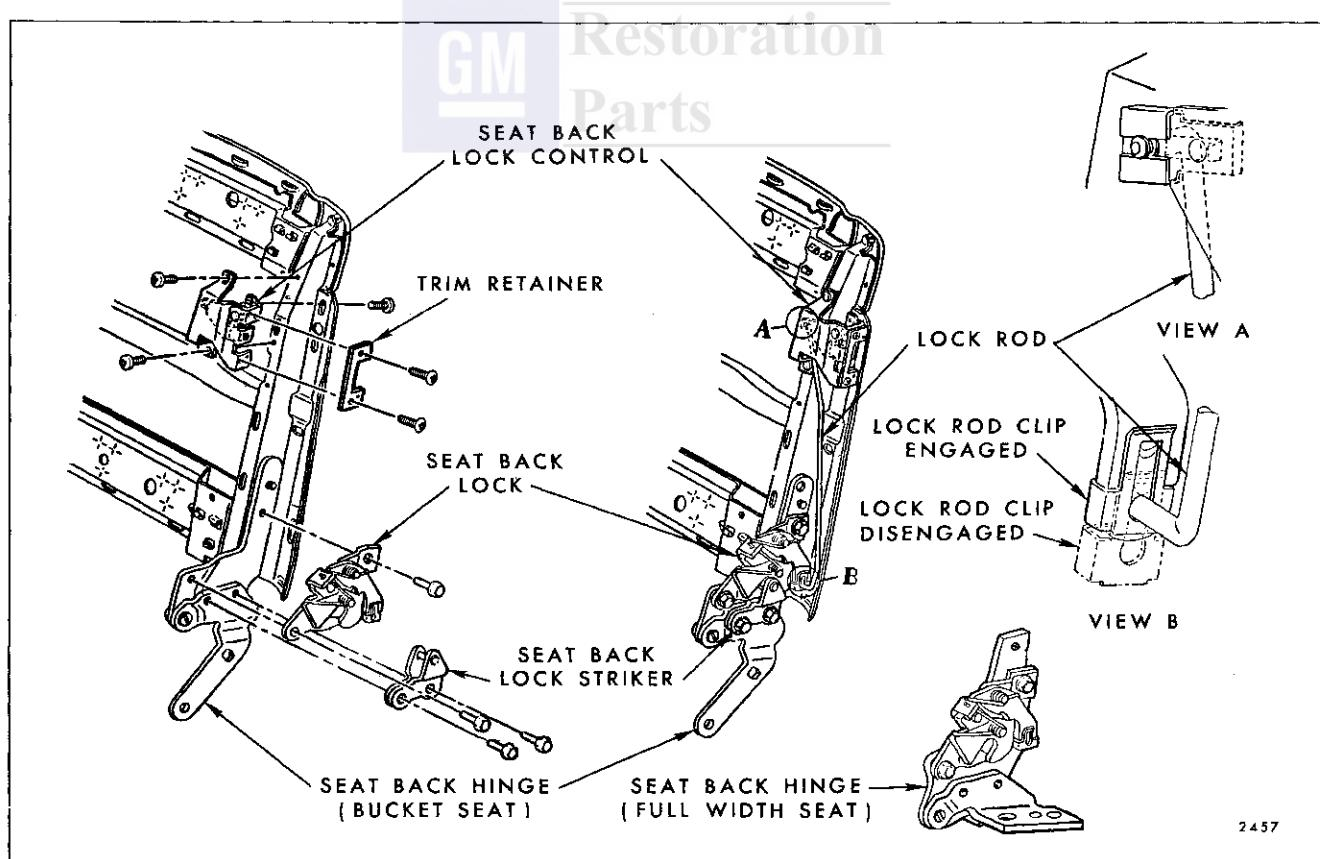

Fig. 15-40—Seat Back Lock, Lock Control and Lock Rod — Strato Full Width and Bucket Seats
2. Remove hog rings securing seat back trim to seat back side bar; then, turn back trim sufficiently to gain access to seat back lock and lock striker attaching bolts (Fig. 15-40).
3. a. To remove seat back lock, disengage lock rod clip at lock (Fig. 15-40) and detach rod from lock. Remove bolts securing seat back lock to seat back outer hinge (Fig. 15-40) and remove lock from seat.
- b. To remove seat back lock control, disengage lock rod clip at control (Fig. 15-40) and detach lock rod from control. Remove lock control attaching bolts (Fig. 15-40) and remove lock control from seat back.
- c. To remove seat back lock rod, disengage lock rod clip at lock and at control (Fig. 15-40), detach lock rod from control and lock and remove from seat back.